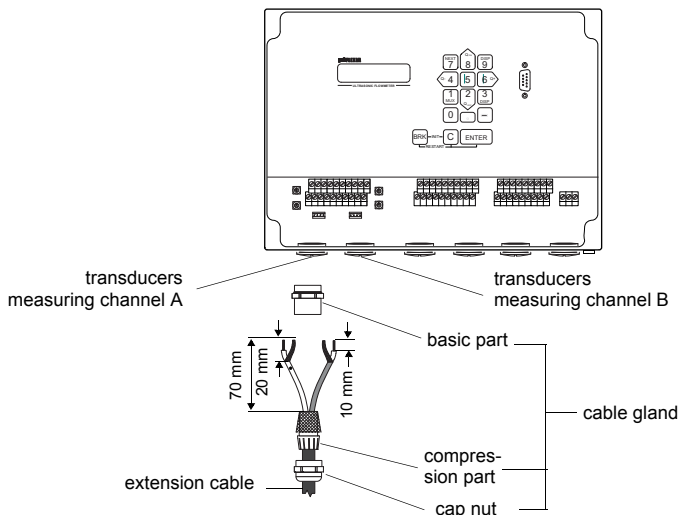

Fig. 5.4: Transducers - connection via junction box to the transmitter
- Remove the left blind plug for the connection of the transducers (see Fig. 5.4).
- Connect the leads to the terminals of the transmitter (see Fig. 5.4 and Table 5.2).